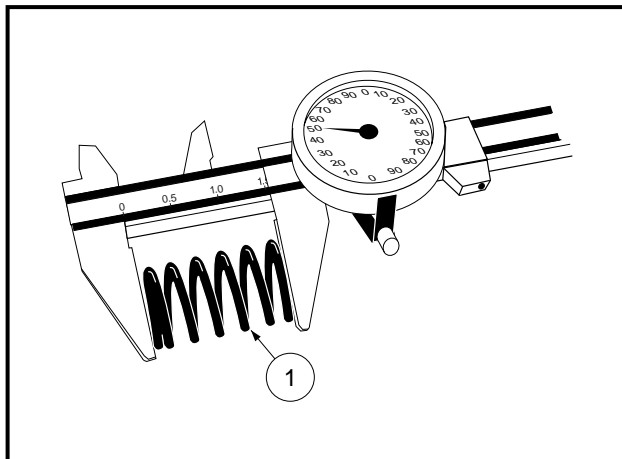

Figure 13-32 Measure Valve Spring Length
1. Inspect the valve springs (1) for pitting, cracks, corrosion and burrs. Replace the springs if necessary (Figure 13-32, Page 13-18).
2. Measure the free length of the spring. If the measurement is less than the service limit of 1.51 inch (38.50 mm), replace the spring (Figure 13-32, Page 13-18).